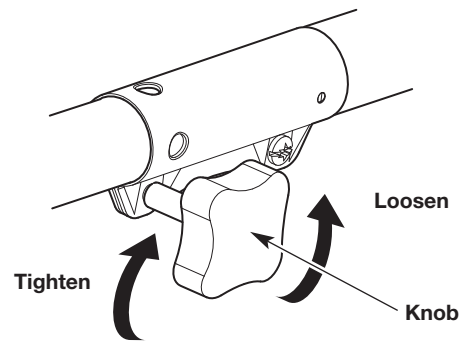

Fig. 3
3. Turn the knob counterclockwise to loosen the coupler (Fig. 3).
6. Turn the knob clockwise to tighten the coupler (Fig. 3).
2. Turn the knob counterclockwise to loosen the coupler (Fig. 3).